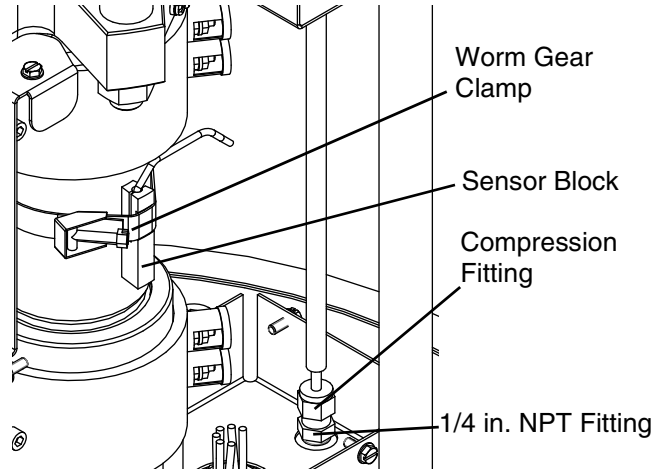

FIG. 6: Disconnecting the RTDs
6. Remove the defective platen or pump RTD, depending on which one is being replaced. See Figure 6.